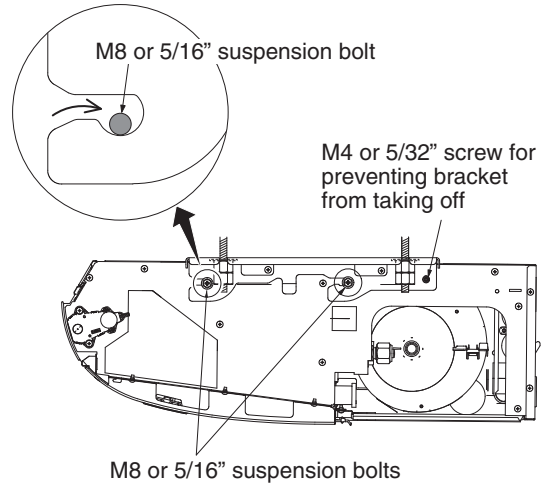

Fig. 3-17
- b) Suspend the indoor unit to the bracket. Tighten the M8 or 5/16" suspension bolts and fix the indoor unit in place. (Fig. 3-17)